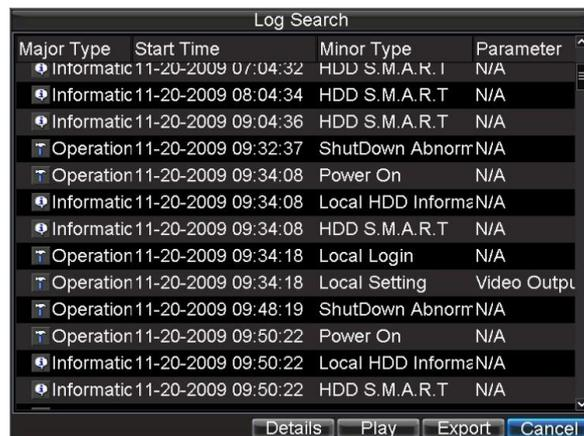

Figure 16. Log Search Results
3. Click the **Search** button to start search. If logs matching the search conditions are found, it will be displayed in a list of search results as shown in Figure 16.